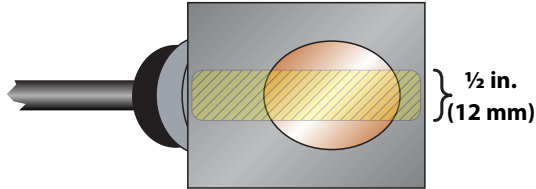

Figure 12: Application of couplant
For FDT-47, FDT-48 and FDT-47-HT transducers, place a single bead of couplant, approximately 1/2 inch (12 mm) thick, on the flat face of the transducer. See *Figure 12*. Generally, a silicone-based grease is used as an acoustic couplant, but any good quality grease-like substance that is rated to not flow at the operating temperature of the pipe is acceptable. For pipe surface temperature over 130° F (55° C), use Sonotemp® (P.N. ST 27-T-02).
5. For FDT-47, FDT-48 and FDT-47-HT transducers, place a single bead of couplant, approximately 1/2 inch (12 mm) thick, on the flat face of the transducer. See Figure 12. Generally, a silicone-based grease is used as an acoustic couplant, but any good quality grease-like substance that is rated to not flow at the operating temperature of the pipe is acceptable.
3. Place a single bead of couplant, approximately 1/2 inch (12 mm) thick, on the flat face of the transducer. See Figure 12 on page 20.